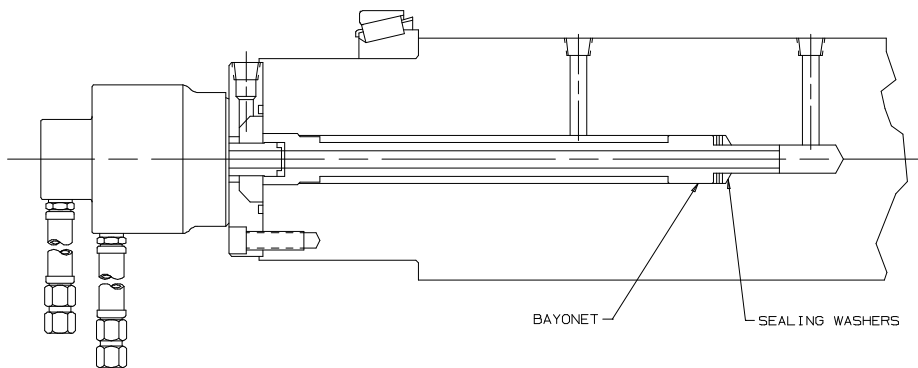

Figure 4
2.2.3 Figure 4 shows typical shaft drilling when both outlets are between shaft bearings. A bayonet assembly, consisting of a length of steel tubing properly supported at both ends, is inserted into the axial hole. The inner passage is the inside diameter of the tube. Rubber seals are used at the inner bayonet support to seal the passages from each other.